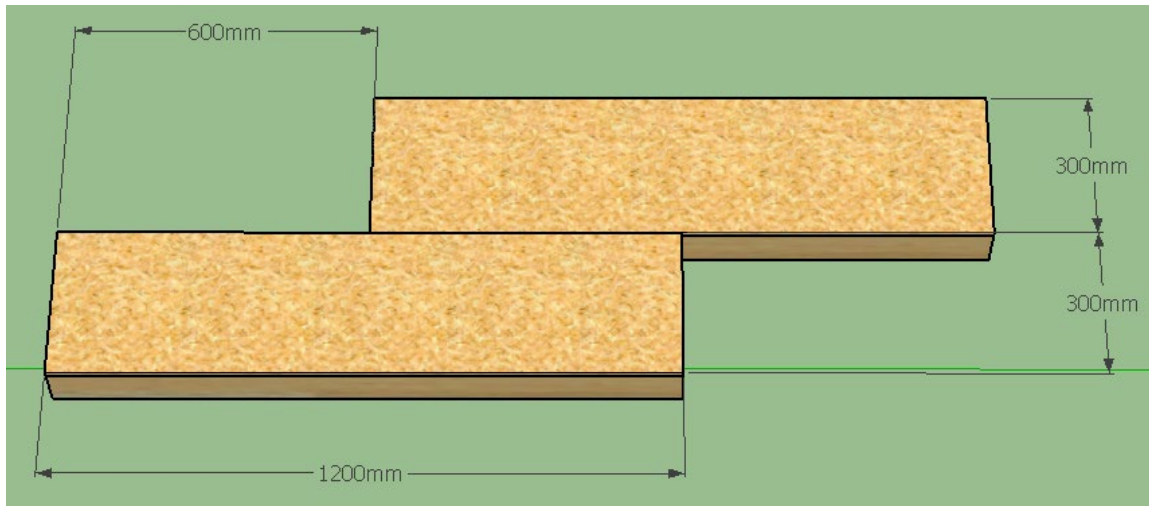

Figure 3: Standardised Testing Bay
- **Bay aka Lane:** A test that is laid out in the pattern shown in Figure 3. Note that not all tests occur in bays/lanes.